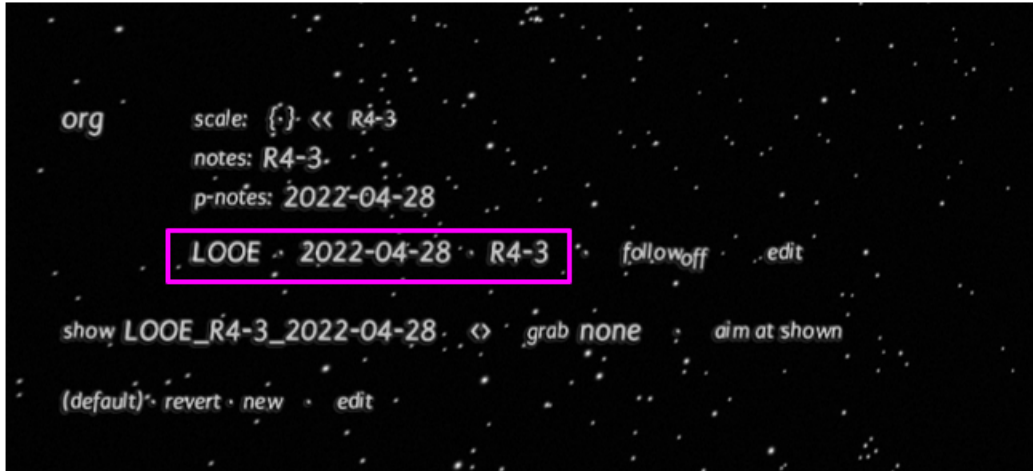

Figure 90. Example of layer name incorrectly ordered.
4. Depending on the naming convention used for naming 3D models, layers will need to be renamed using the Org\_sets spreadsheet. This is also an opportunity to rename layers for any needed corrections or for any other reason. Changing names in the Org\_sets spreadsheet will change the way that Org displays and organizes this layer, but no changes will be made to the original 3D model. (For example, when using the M:IR naming convention, plot name and collection data will appear in reverse order under the Org menu, as shown in Figure 90, and must be edited using the layers spreadsheet shown in Figure 91.)